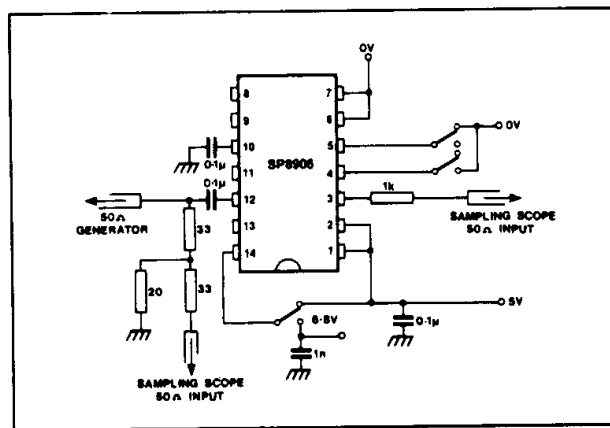

Fig.6 Test circuit
- The test configuration for dynamic testing is shown in Fig. 6